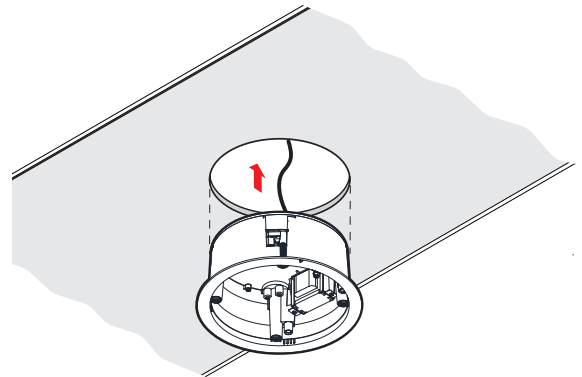

Figure 8. Insert the Back Can into the Ceiling
- a. Insert the speaker up through the hole in the ceiling tile that was cut in **step 2** with the wires out of the way (**see figure 8**).